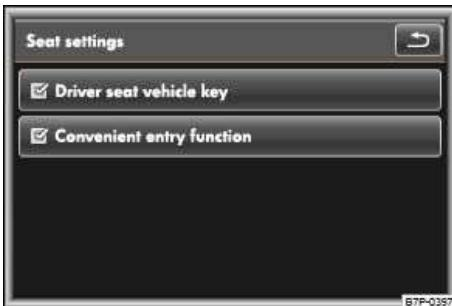

Fig. 56 Infotainment system: Menu seat settings for the driver seat with memory feature.
- Check the check box by the **Driver seat remote control key** function key ⇒ fig. 56.